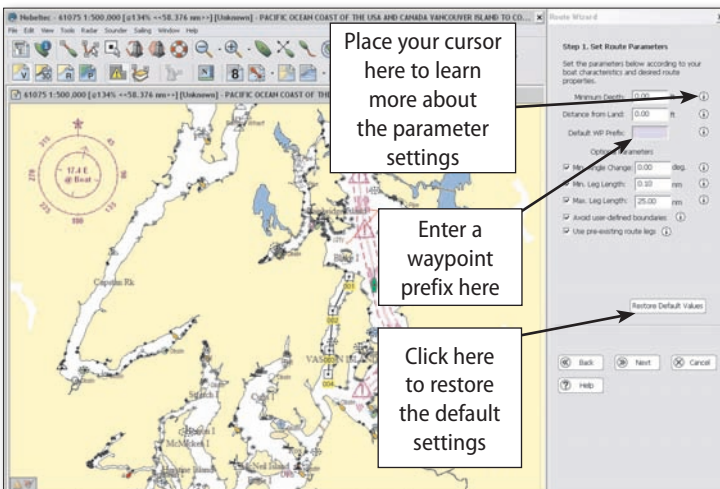

Figure 9.2 - Route Wizard Parameters
4. Set the Route Parameters. For information on each Parameter, roll your mouse over the Information Icon (**Figure 9.2**). Click **Next**.